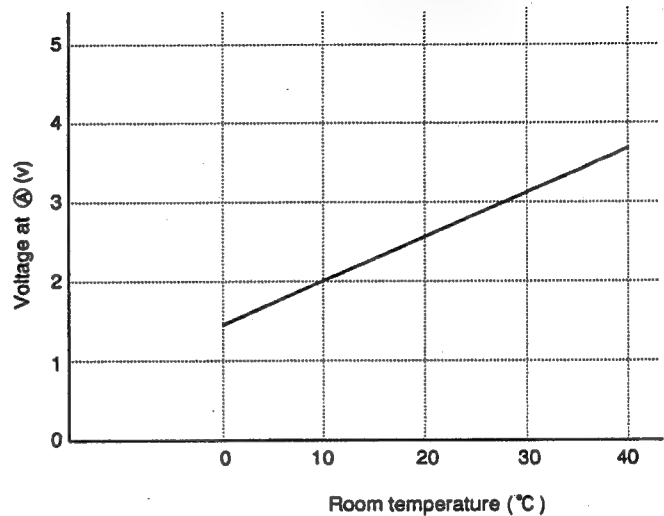

Fig. 5-2
The voltage at ① depends on the room temperature as shown in Fig. 5-2.